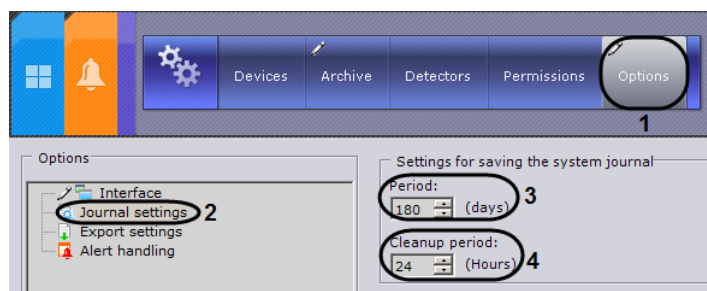

Fig. 6.9—1 Configuring the system journal
1. Go to **System settings**⇒**Options**⇒**Journal settings** (Fig. 6.9—1, 1-2).
2. In the **Period** field, enter in days the period for which the system journal will be stored in the server's database (see Fig. 6.9—1, 3).
3. In the **Cleanup period** field, enter in hours the period after which irrelevant events will be removed from the system log (see Fig. 6.9—1, 4). The following events are considered irrelevant: